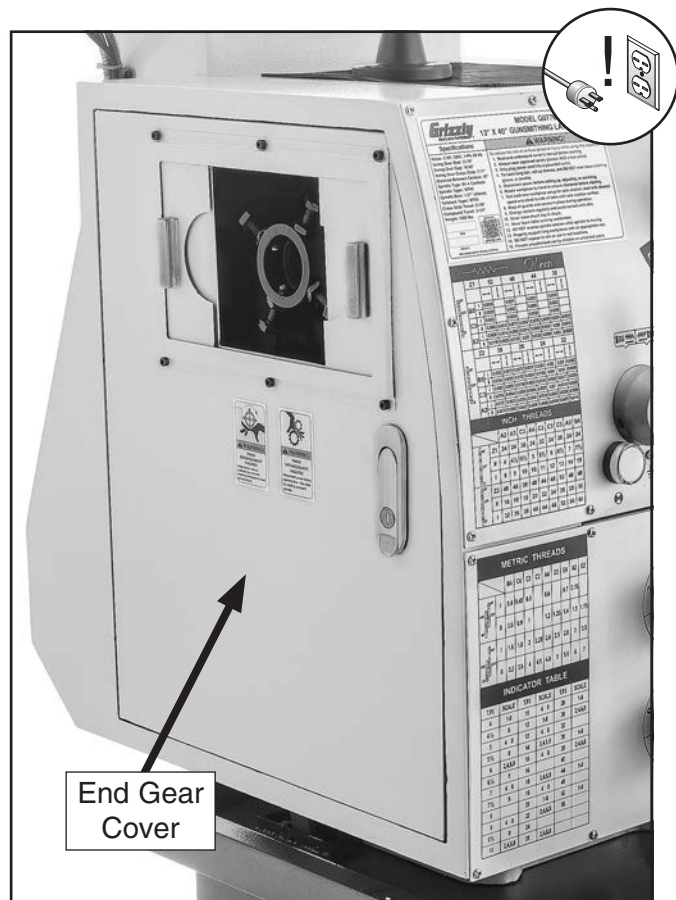

Figure 139. End gear cover location.
2. Open end gear cover to expose V-belts, pulleys, and motor (see **Figure 139**).